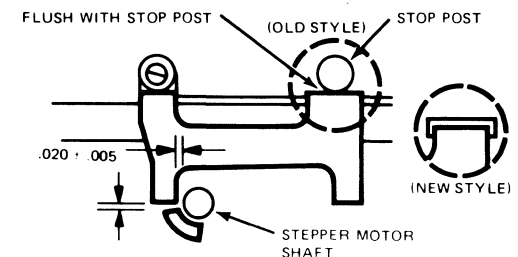

FIGURE 6. CARRIAGE LIMITER ADJUSTMENT
- Position the stop until it is flush with stop post (old style) or in the slot (new style) on the carriage assembly. Reference figure 6. Adjust the track zero cam stop horizontally and vertically until there is $.020 \pm .005$ between the stop on the actuator cam and the stepper motor shaft. Reference figure 6.